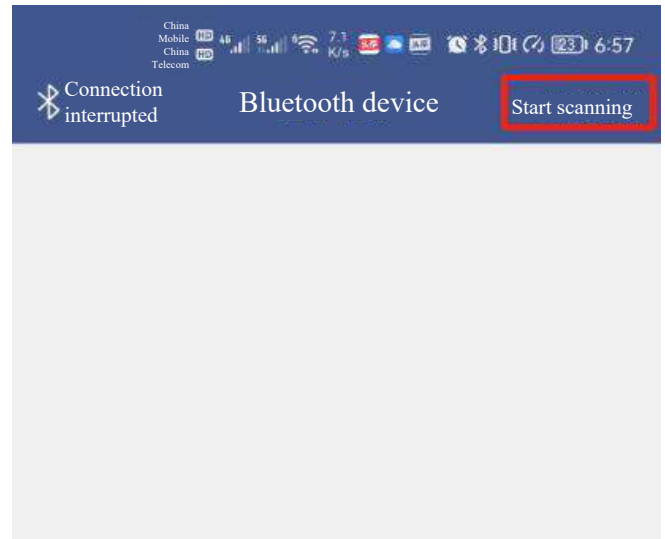

Figure 2.8
② Start scanning; if nothing is displayed, click it for another more times, as shown in Figure 2.8.